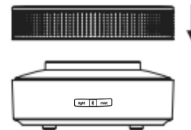

Fig. 2-3
3. Install the top cover of the appliance (Fig. 2-3).